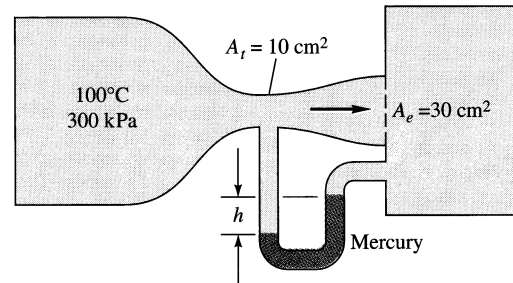

Fig. P9.65
**9.65** Air flows through a converging-diverging nozzle between two large reservoirs, as in Fig. P9.65. A mercury manometer reads  $h = 15$  cm. Estimate the downstream reservoir pressure. Is there a shock wave in the flow? If so, does it stand in the exit plane or farther upstream?